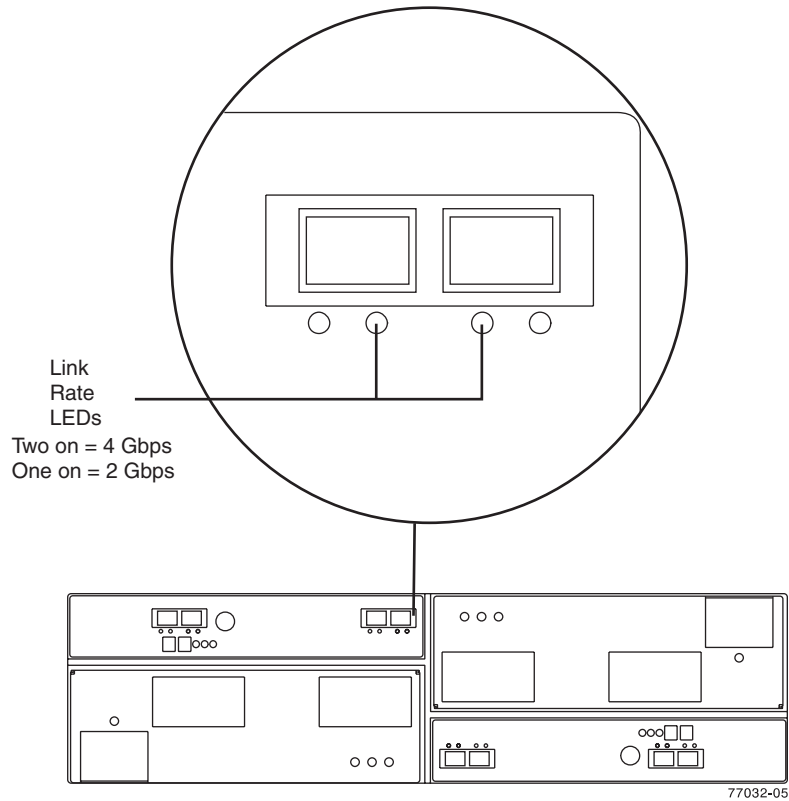

Figure 42. Link rate LEDs
2. Locate the Link Rate indicator LEDs. Figure 42 on page 83 shows the location of the Link Rate indicator lights on the back of the storage expansion enclosure.